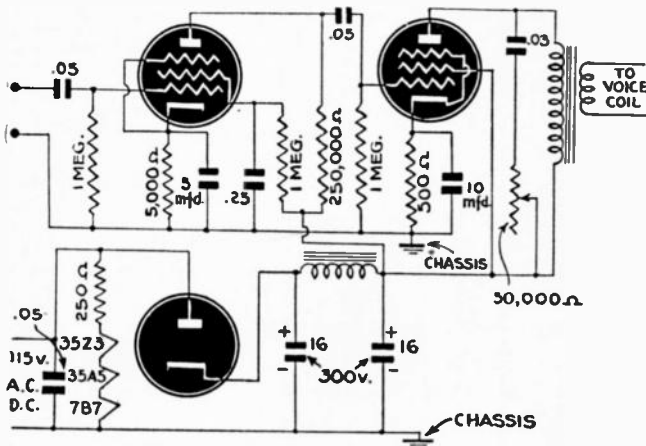

Fig. 313
A. Three of these tubes can be made into a satisfactory phonograph amplifier. See Fig. 313.